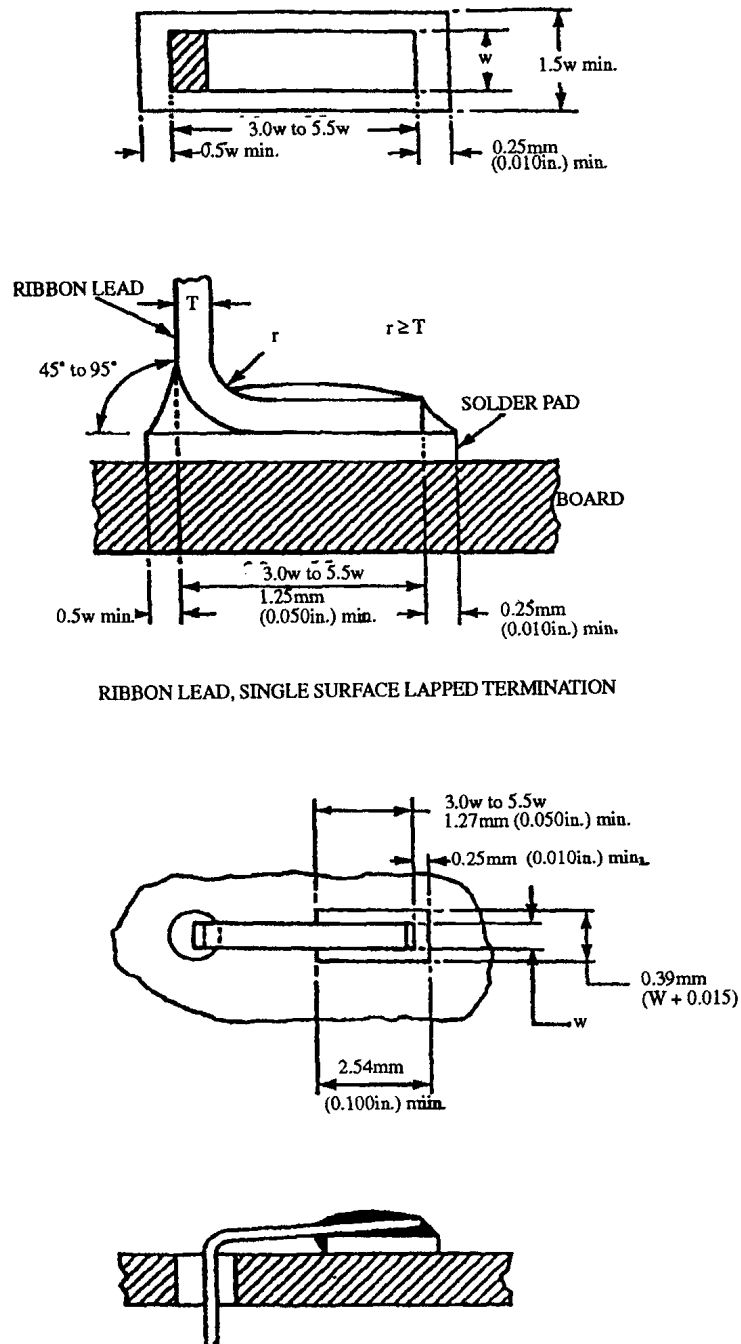

Figure 8-15. Lapped Ribbon Leads
b. Lapped Ribbon Leads. The ribbon lead shall overlap the solder pad a minimum of 3 lead widths to a maximum of 5.5 lead widths. Only that portion of the lead extending to the part body or to another soldered connection shall be beyond the pad. The cut-off end of the lead shall be a minimum of 0.25mm (0.010 inch) from the end of the pad. One edge of the lead may be flush with the edge of the solder pad. There shall be sufficient area around two of the three lead edges to accommodate solder filleting (see Figure 8-15). In instances where ribbon leads are less than
0.5mm (0.020 inch) in width, ribbon overlap shall be no less than 1.27mm (0.050 inch). For lapped terminations where the part body is on the same side of the PWB as the termination area, a heel fillet is mandatory (Figure 8-15).